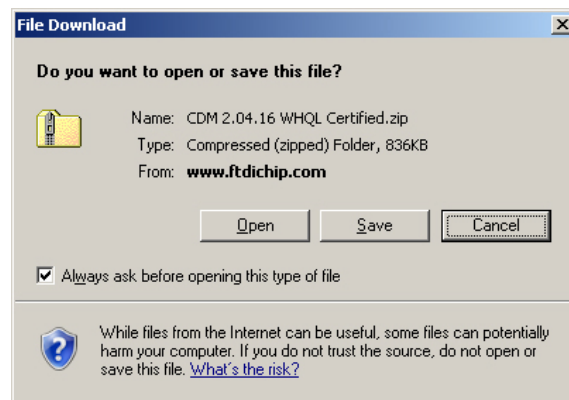

Figure 1. File Download Pop-up Screen.
2. The pop-up box in Figure 1 should appear to the screen. Click Save.